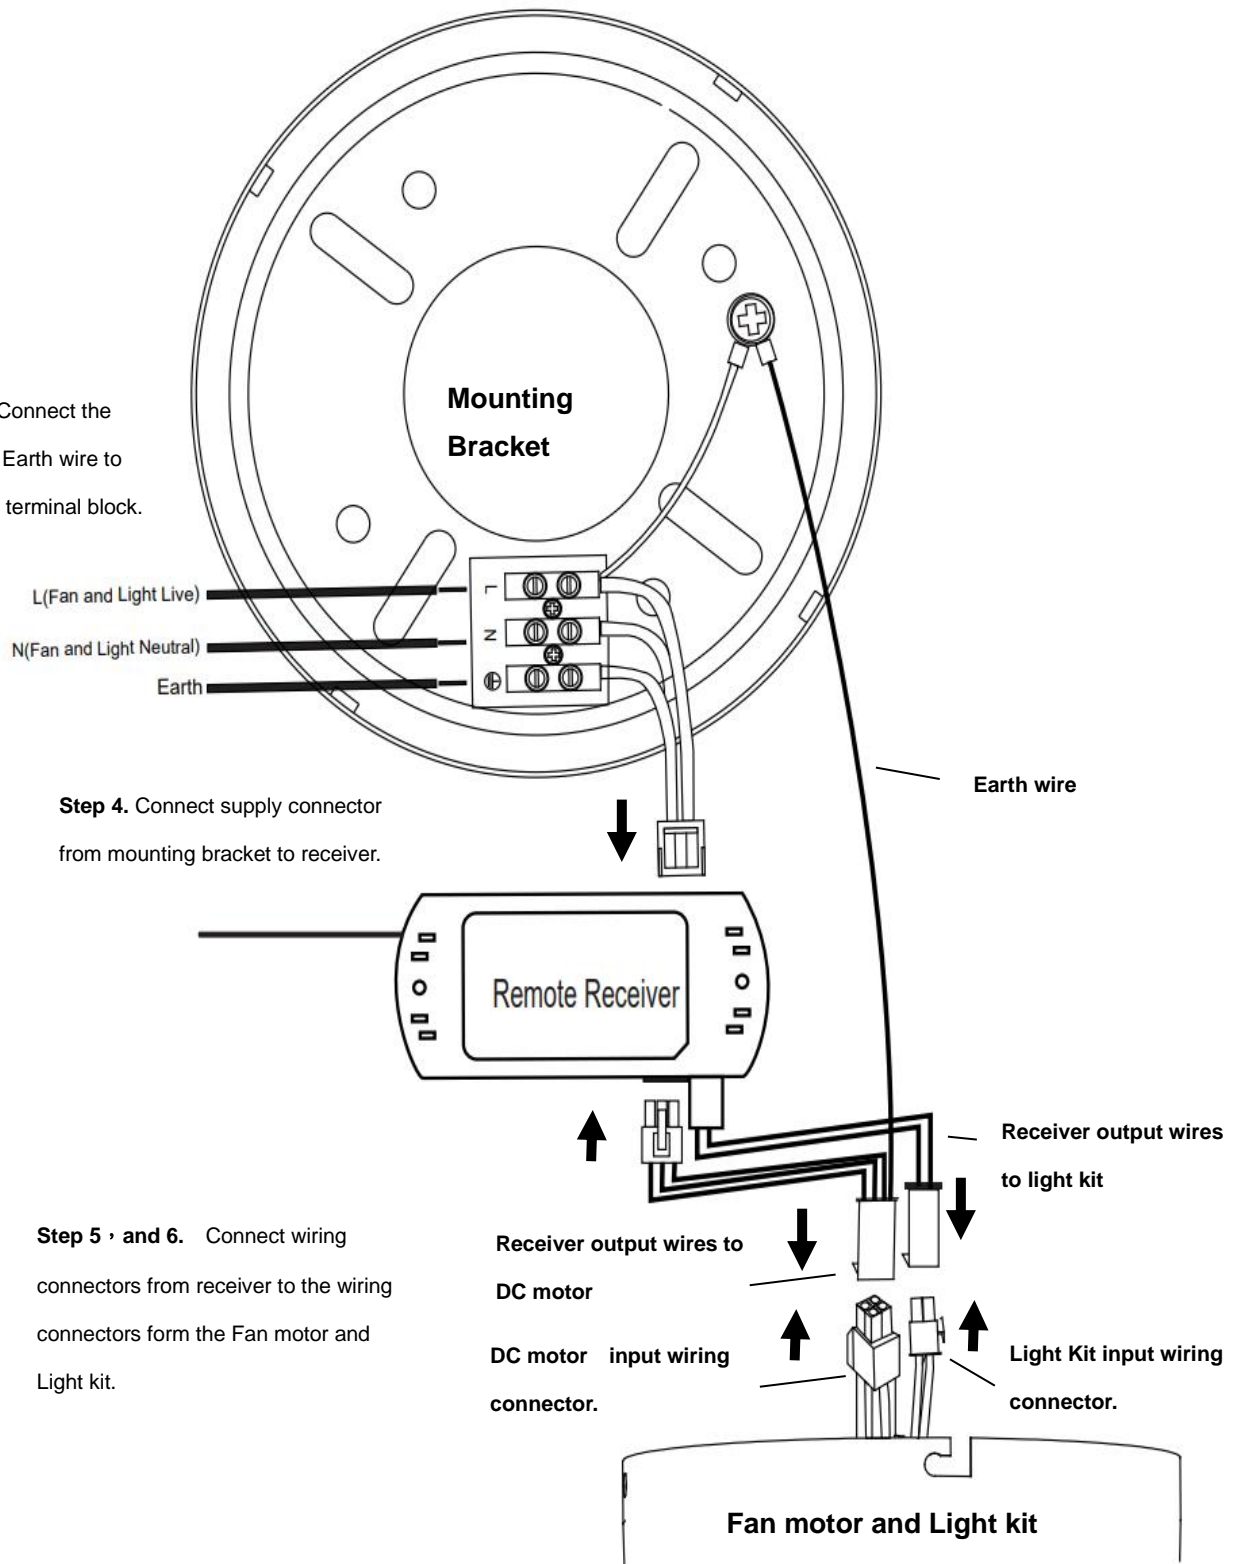

Fig. 4
PREPARE AND COMPLETE THE ELECTRICAL WIRING --- WIRING DIAGRAM (FIG. 4)
From mains supply to mounting bracket terminal block: (Fig. 4)
From mounting bracket to receiver and motor: (Fig. 4)
5. Connect the output wires of DC remote receiver (from mounting bracket with earth wire) to the output of the DC remote receiver (**Fig. 4**). Connect the output wires of DC remote receiver with earth wire (from mounting bracket with earth wire) to the input of the fan motor (**Fig. 4**)